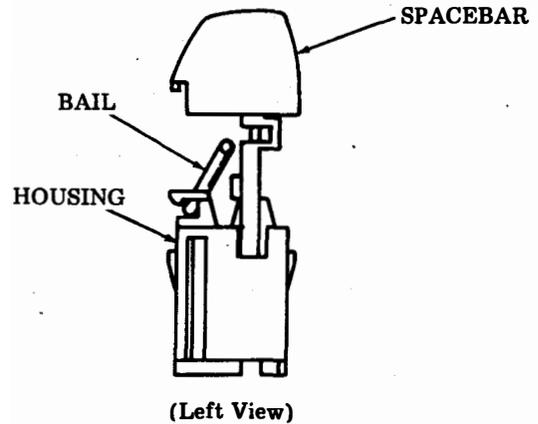

Fig. 8—Spacebar Assembly
- (c) Place the spacebar into the guide slots in the left and right housing. Position the bail into the notch (one left side and one right side) on the spacebar. Push down on the spacebar snapping it into place in the housing. See Fig. 8.